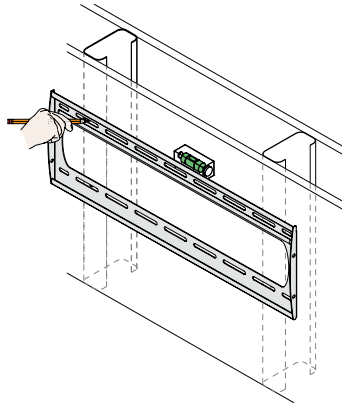

Figure 20. Marking Mounting Holes for Steel Stud Anchors
7. Use a pencil (not included) and mark two upper and two lower locations where you will be drilling holes for the steel stud anchors (Figure 20).